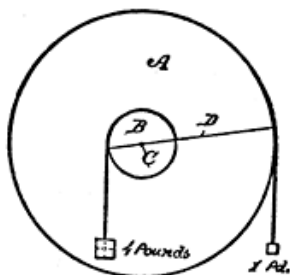

Fig. 128. The Pulley ToList
This will be made plain by a few illustrations. In Fig. 128, A is a pulley four times larger, diametrically, than B, and C is the pivot on which they turn. The pulleys are, of course, secured to each other. In this case we have the two weights, one of four pounds on the belt, which is on the small pulley (B), and a one-pound weight on the belt from the large pulley (A).